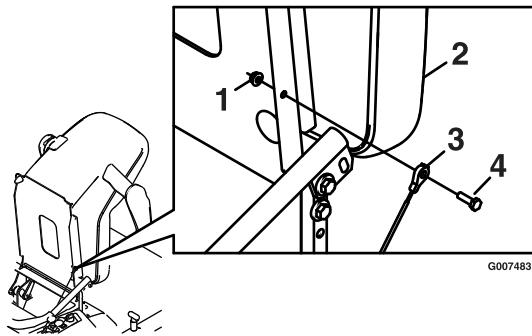

Figure 1
2. Tilt seat downward and align lanyard to the hole in the side of the seat (Figure 1).